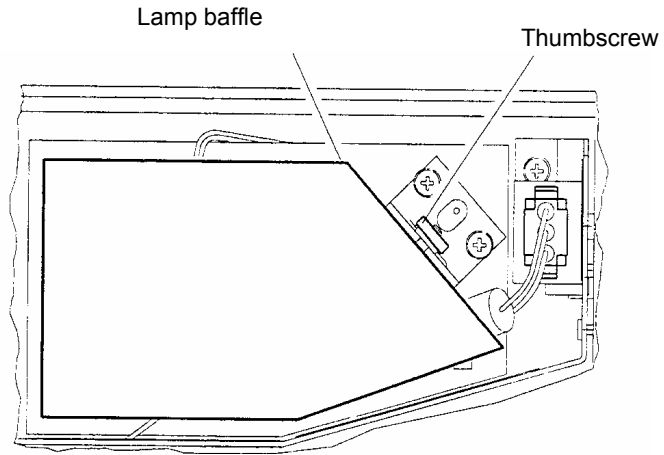

Figure 37 Removing the lamp baffle
3. Remove the lamp baffle by slackening the thumbscrew for the deuterium lamp, shown in Figure 37, and lifting the lamp baffle vertically upward.